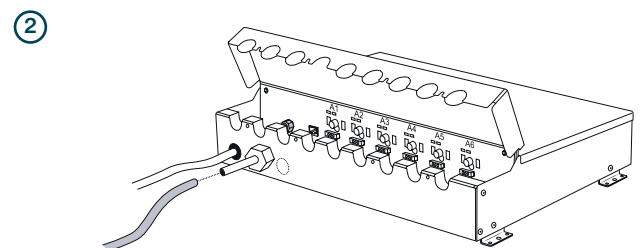

Figure 1 - Filter housing with lockable inspection hatch and LEDs indicating which UV lamps are lit
2. Loosen the four screws (Torx 10) and lift the front plate of the power unit (Figure 1).